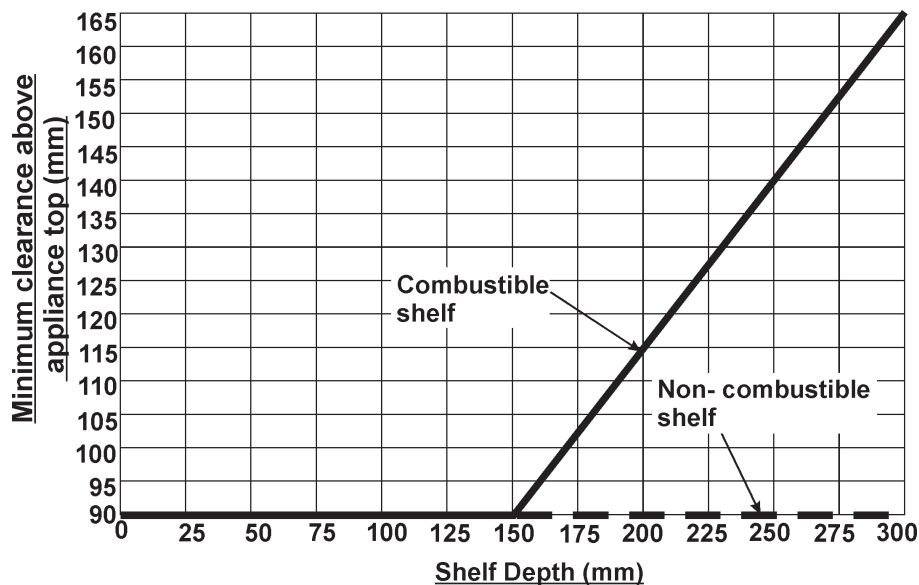

Figure 1. Shelf clearances
**Do** allow a minimum clearance of 90mm from the top of the appliance fascia to the underside of any shelf whether it is made from combustible or non-combustible materials. This clearance is necessary to allow the fascia to be lifted off for servicing and also allows sufficient access to operate the control knob. For a shelf made from wood or other combustible materials deeper than 150mm add 12.5mm to the clearance for every 25mm of additional shelf depth (See figure 1). Please bear this in mind if ever you add a shelf.